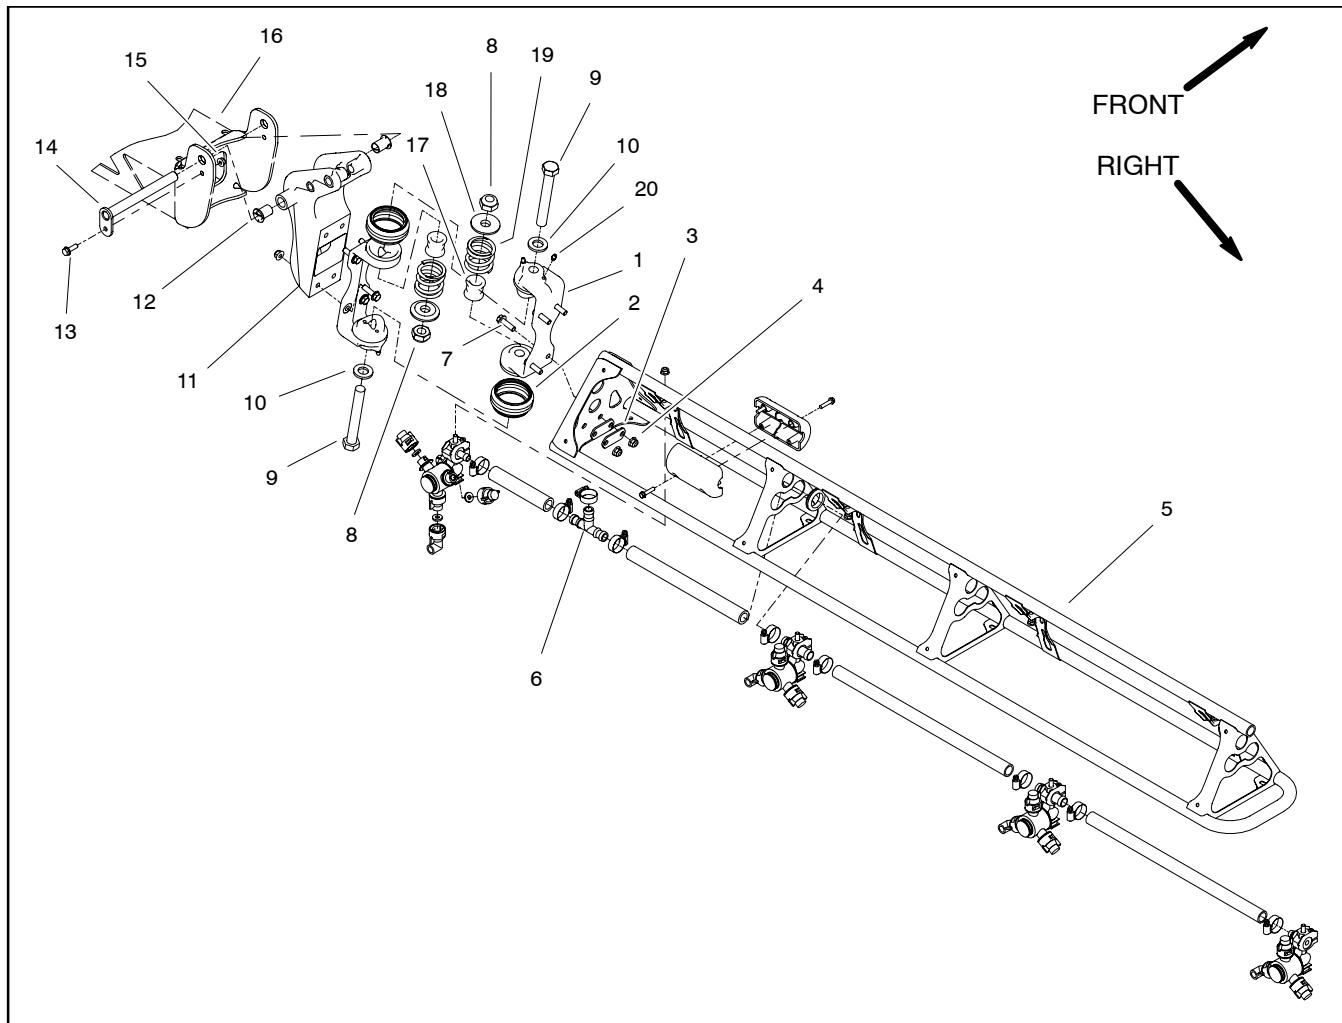

Figure 41
### Disassembly (Fig. 41)
2. Loosen hose clamp and remove supply hose from tee fitting (item 6) on spray boom.
4. Loosen two (2) cap screws (item 9) and lock nuts (item 8) to allow breakaway springs (item 18) to fully extend.
5. Complete disassembly as required using Figure 41 as a guide. If pivot bracket (item 11) is to be removed from machine, disconnect boom actuator (not shown) from pivot bracket (see Boom Actuator Removal (Machines with Serial Numbers Above 260000000) in this section).
## Assembly (Fig. 41)